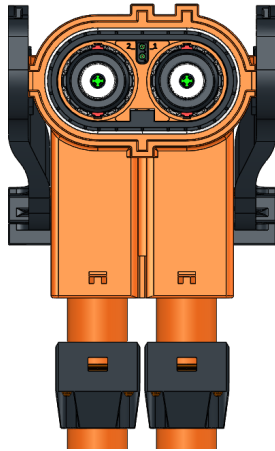

Figure 12.1.1
Step 12: Assemble the cable gland (Figure 12.1.1 & 12.1.2)